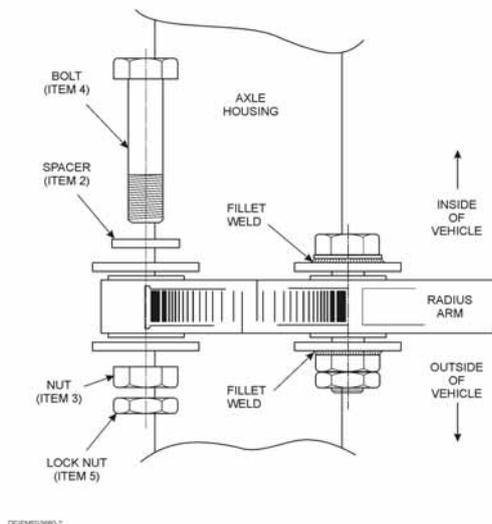

Figure 79 Radius Arm Mounts
- i. Fit Items 2, 3 and 4 from Table 17 to the axle case mounts. Ensure the bolts are fitted from the inside facing out, are parallel to the axle casing and tighten them firmly (Figure 79).
- j. Weld the inside spacers and outside nuts to the axle casing mounts (Figure 79), with a 3 mm continuous fillet weld using either:
- (1) Manual Metal Arc Welding (MMAW) process using electrodes conforming to AS/NZS 1553.1: E4818 that have been reconditioned prior to use in accordance with the manufacturers instructions; or
- (2) Gas Metal Arc Welding (GMAW) process using consumables conforming to AS/NZS 2717.1: ES6-GC/M-W503AH and shielding gas conforming to AS 4822:SG-ACO-16/2.75.